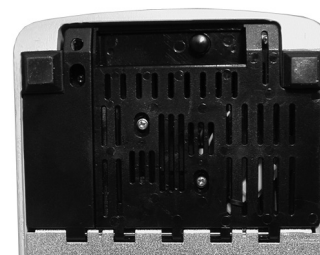

Figure 28
2. Lamp replacement is done by laying the microscope on its back and opening the trap door located on the bottom of the base by pulling on the release knob (see figure 28).